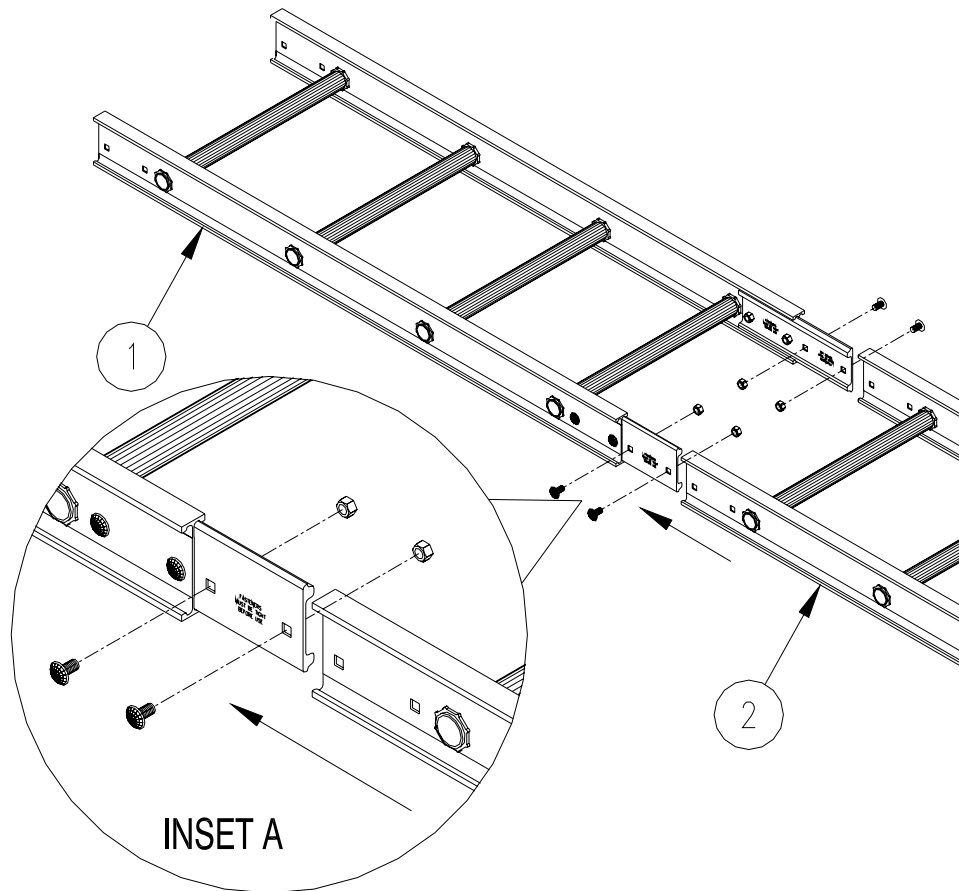

Figure 3-1.
1. Refer to **Figure 3-1**. The track is supplied with the cross ties offset to one side of the track flanges. This gives additional hull clearance. Orient the track so that the cross ties are closer to the ground side of the track. Position the tracks parallel to one another. The 4 Ft long track (1) is the starter track section. The winch mounts to the end without splice plates. Next position 8 FT long track (2) parallel to the previous track section.